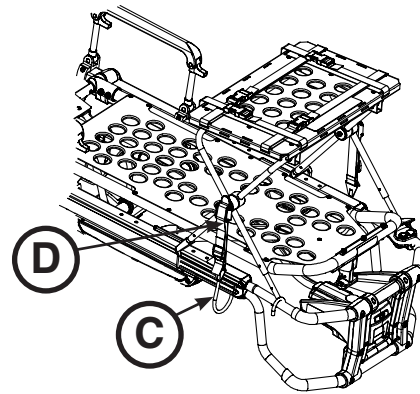

Figure 67a
- Place the latch hook (C) under the cot litter frame or foot end fastener and push the tab (D) up until it locks into place with an audible click as shown in Figure 67a. Repeat on the other side of the defibrillator platform.